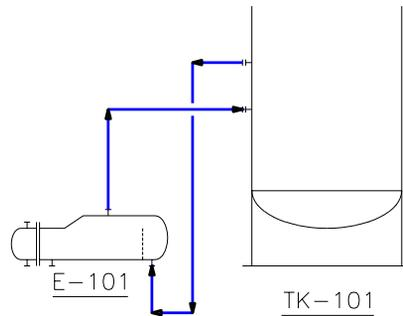

Figure 2-48 Line connecting the vessel and the bottom nozzle of the heat exchanger
- Invoke the **Primary Line Segment** tool from the **Lines** tab of the **TOOL PALETTES** and connect the vessel to the nozzle located at the bottom of the heat exchanger. The line created should be similar to the one shown in Figure 2-48.